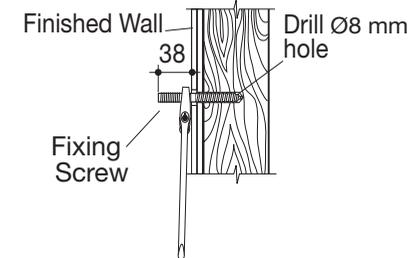

Fig. 2
- 5-Locate basin onto the fixing screws on the wall. Insert plastic bushes, metal washers and fasten to wall with fixing nut. To complete assembly as detailed in **Fig. 2**.
- 6-The Plastic Bush allows for leveling adjustment if required by rotating the hexagonal head bush, the basin will be slightly raised or lowered as detailed in **Fig. 2**.